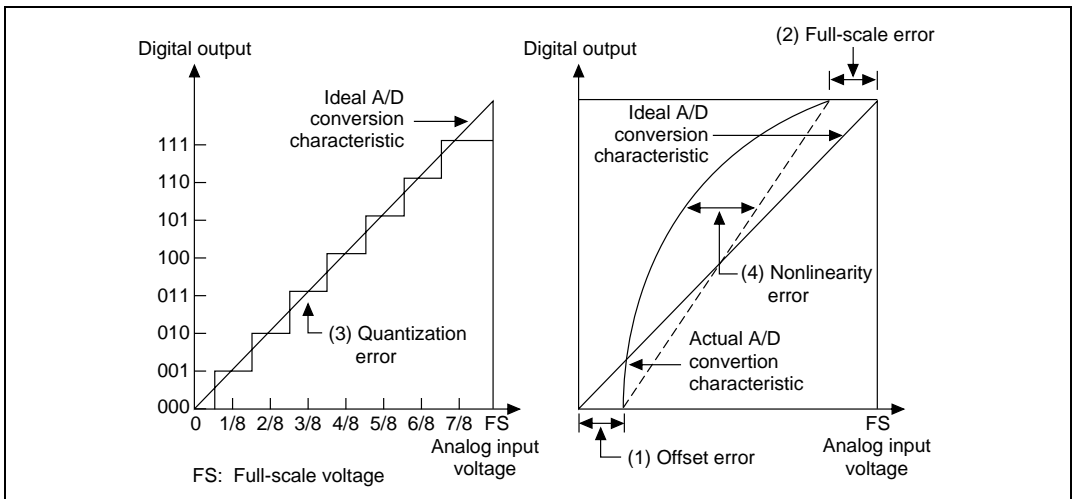

Figure 14.7 Definitions of A/D Conversion Accuracy
These four error quantities are explained below using figure 14.7. In the figure, the 10 bits of the A/D converter have been simplified to 3 bits.
Offset error is the deviation between actual and ideal A/D conversion characteristics when the digital output value changes from the minimum (zero voltage) 000000000 (000 in the figure) to 000000001 (001 in the figure)(figure 14.7, item (1)). Full-scale error is the deviation between actual and ideal A/D conversion characteristics when the digital output value changes from 111111110 (110 in the figure) to the maximum 111111111 (111 in the figure)(figure 14.7, item (2)). Quantization error is the intrinsic error of the A/D converter and is expressed as 1/2 LSB (figure 14.7, item (3)). Nonlinearity error is the deviation between actual and ideal A/D conversion characteristics between zero voltage and full-scale voltage (figure 14.7, item (4)). Note that it does not include offset, full-scale, or quantization error.